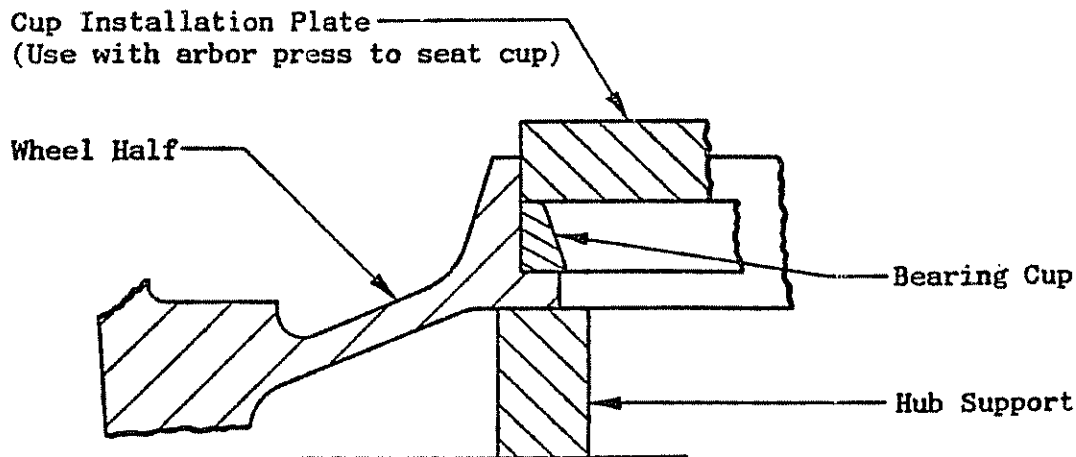

Figure 2 Supporting Wheel Hub
12.1.4.4.2 Support wheel hub and paint the ID of the hub with zinc chromate primer. Then press cup into wheel half as shown in Figure 2.